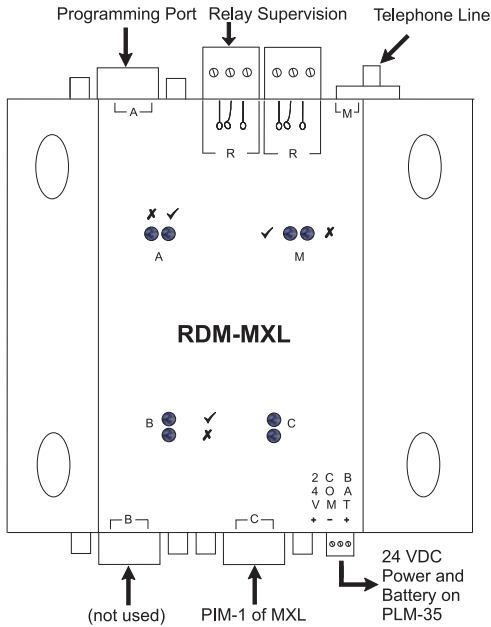

Figure 1
The Model RDM-MXL module (RDM for connection to the MXL PIM-1) from Siemens Industry, Inc., as shown in Figure 1, connects the MXL to a remote location via a telephone line. The module is designed to be installed and serviced by fully qualified field engineers. There are no user-serviceable or installation parts inside the unit.
- Connect the 24V DC power source (CZM) to the supplied connector. The power connector is next to the RS-232 Port C (See Figure 1). Pin connections are written on the board and are as follows: